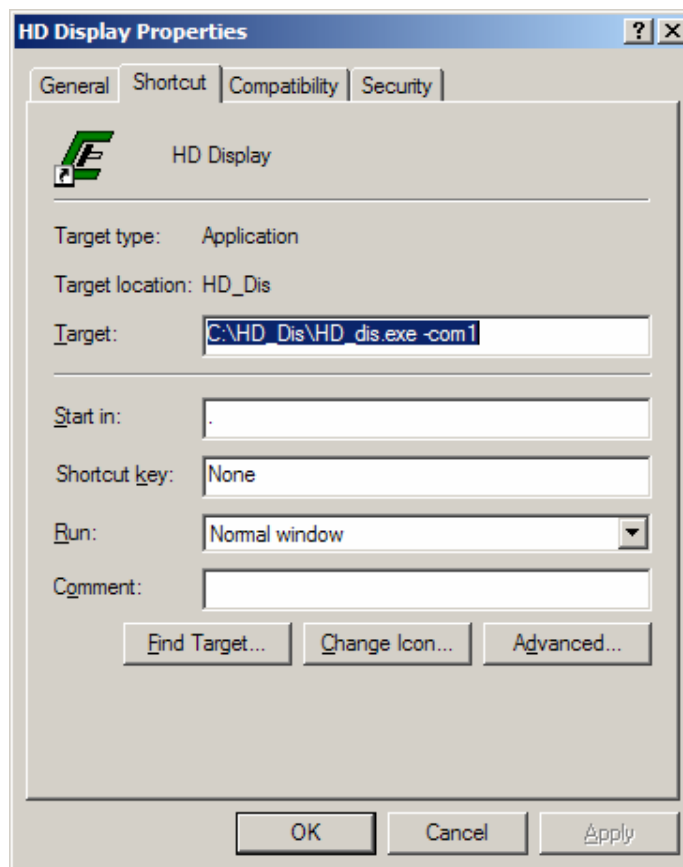

Figure 22: Software Properties
- **COM1, COM2, etc.:** Specifies which communication port to connect through for a given software session. This setting is not retained once the software has been exited, however it may be retained by right-clicking the main software icon, selecting properties, and adding `-com#` to the end of the target field. An example is shown in Figure 22.